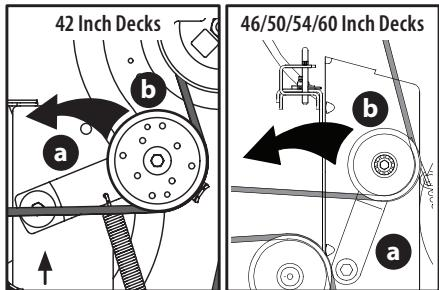

Figure 42
that provides the most horizontal run of the belt between the deck idler pulleys and the PTO pulley on the bottom of the engine (Figure 42).
- b. Working from the middle of the tractor, pivot the idler bracket (a) and movable idler pulley (b) rearward just far enough to lift the belt up and over the spindle pulley (Figure 42).